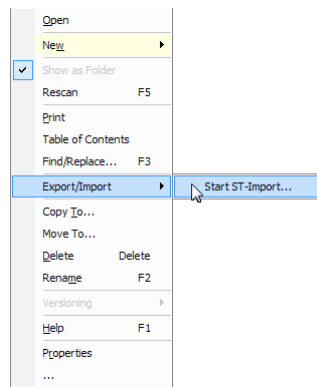

Figure 299: Importing KNX types in logi.CAD.
6. Select **Export/Import** → **Start ST-Import** from the context menu of the newly created library, as shown in Figure 299.